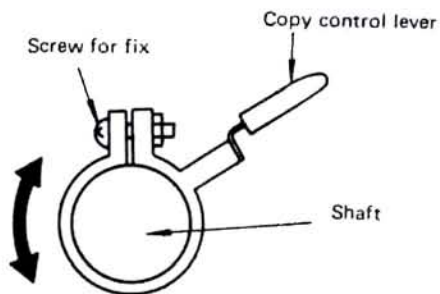

Figure 6-3.
- Place the platen gap tool at the center of the platen. Loosen the copy control lever lock screw (See Figure 6-3) and make adjustment by moving the lever back and forth.